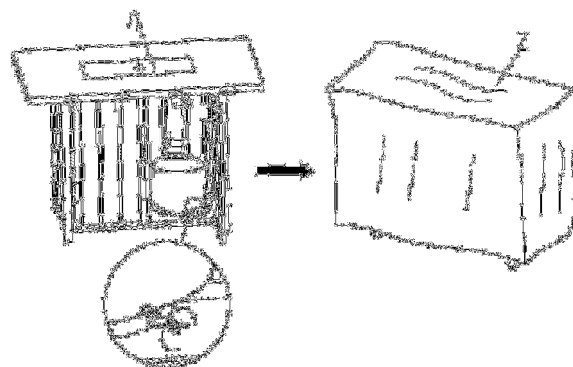

Figure 8
9. Open the door, place the 20-pound cylinder into the main body and tighten it as shown on the right, so the gas cylinder cannot move and fall down, close the door, cover the fire pit with PVC cover (Z) when not in use to protect it from the elements or when fire pit is cool COMPLETELY after the use,(see figure 8).